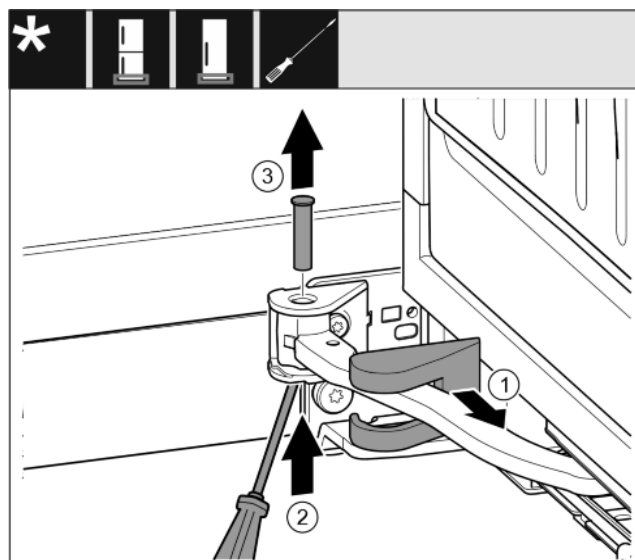

Fig. 12
- Remove the bearing bracket cover and push it along the hinge. Fig. 12 (1)
- Lift the bolt with a finger or screwdriver from below. Fig. 12 (2)
- Insert the screwdriver under the bolt head and pull it out. Fig. 12 (3)